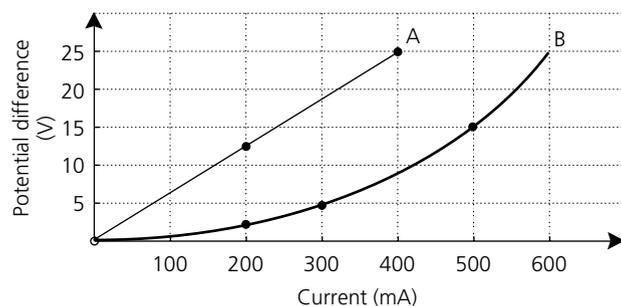

Figure 22.31
- **30** Figure 22.31 shows a graph of potential difference versus current for two different electrical devices A and B.